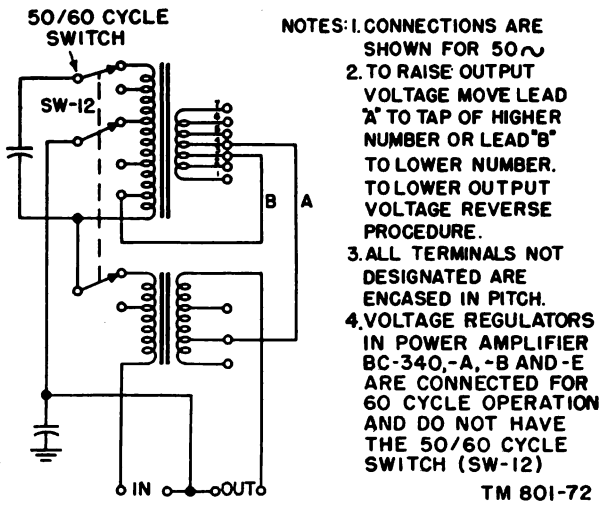

Figure 51. Voltage regulator, schematic diagram.
b. All filament transformer primary voltages are controlled by the automatic voltage regulator (VR-1) (fig. 51). This unit is the saturating iron type and regulates the filament voltage to within 3.5 percent of the nominal tube voltage. If the regulator were omitted from the circuit, a change in input voltage would cause a change in filament voltage. However, with the regulator included, a large increase of input voltage causes only a slight increase in magnetic flux, due to the core of the regulator reactor being at magnetic saturation. This in turn produces only a slight increase in secondary voltage, thus maintaining the secondary voltage of this transformer fairly constant. The capacitor placed across the primary of this transformer produces a phase shift, and the value of this capacitor is determined by the frequency at which regulation is desired.